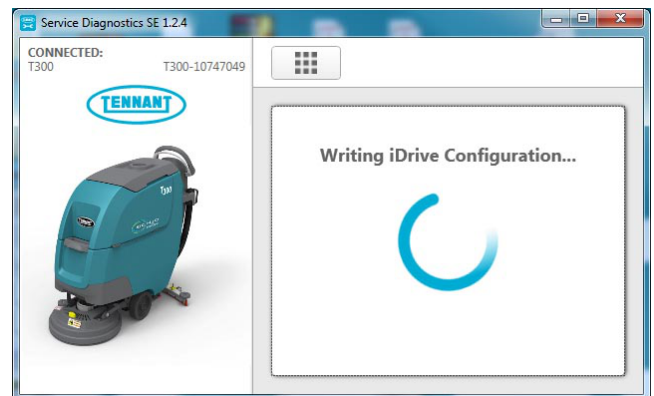

Fig. 8
- Programming may take several seconds to complete (Figure 8). Follow instructions on screen if prompted to cycle key to complete process.